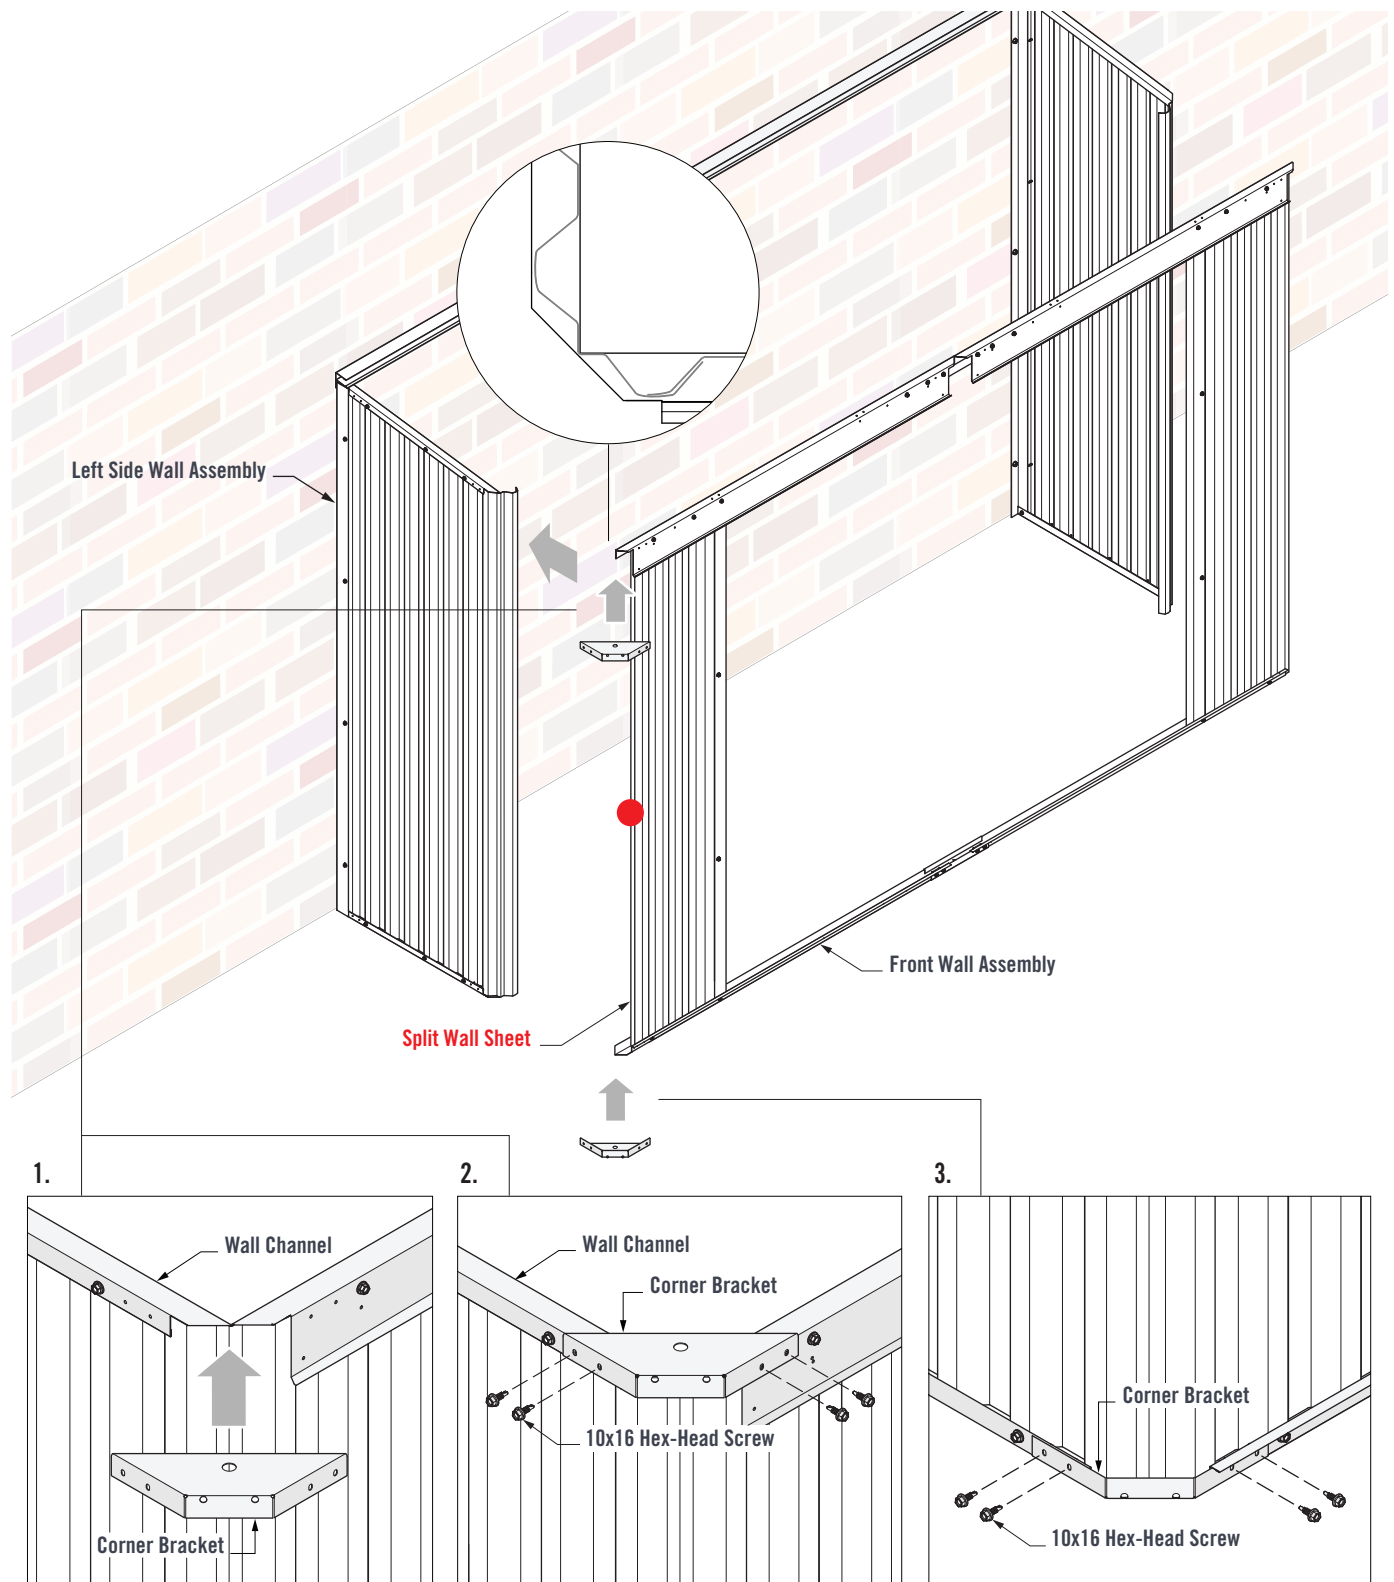

FIGURE 9.0
Fit the Corner Wall Sheet of the Left Side Wall Assembly over the Front **Split Wall Sheet**. Ensure the Corner Sheet fits inside the Front Wall Channels (Figure 9.0).
1. Fit a Corner Bracket over the top Channels. Ensure the pilot holes of the Corner Bracket and Channels line up (Figure 9.0).
2. Fasten through the Corner Bracket pilot holes and into the top Channels using four 10x16 Hex-Head Screws (Figure 9.0).
3. Fit a Corner Bracket to the bottom Wall Channels. Fasten through the Corner Bracket pilot holes and into the bottom Wall Channels using four 10x16 Hex-Head Screws (Figure 9.0).
Fit the Corner Brackets as per Figure 9.0.